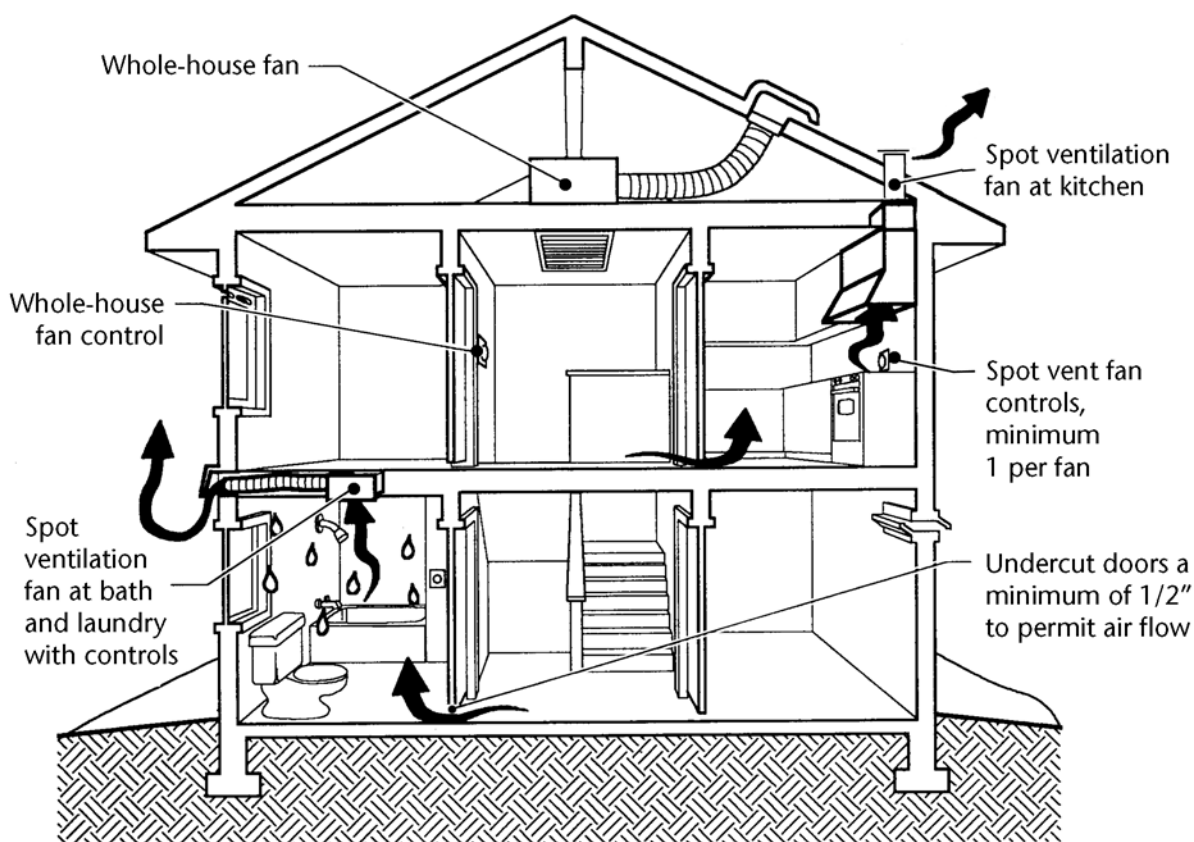

Figure 8-1
- [V303.3] Source-specific or spot ventilation (see Figure 8-1) is required in specific rooms of the house, including: